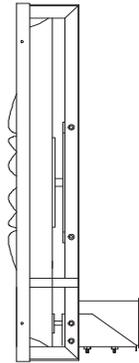

FIGURE 1.
(a) Motor Mounting - Style L, H and AL models (see Figure 1).
- (1) Remove motor bracket from its shipping position on fan frame. Attach motor bracket to motor (see Figure 1 for correct positioning of bracket to motor).
- (2) Place fan in upright with bracket mounting holes in uprights below center of fan.
- (3) Hang motor and motor bracket from belt by placing motor pulley on belt and temporarily supporting back of motor as necessary.
- (4) Select correct bracket holes so that slots in motor bracket will allow adjustment up and down.
- (5) Fasten motor bracket to uprights with four bolts provided. Make sure motor base remains level. Do